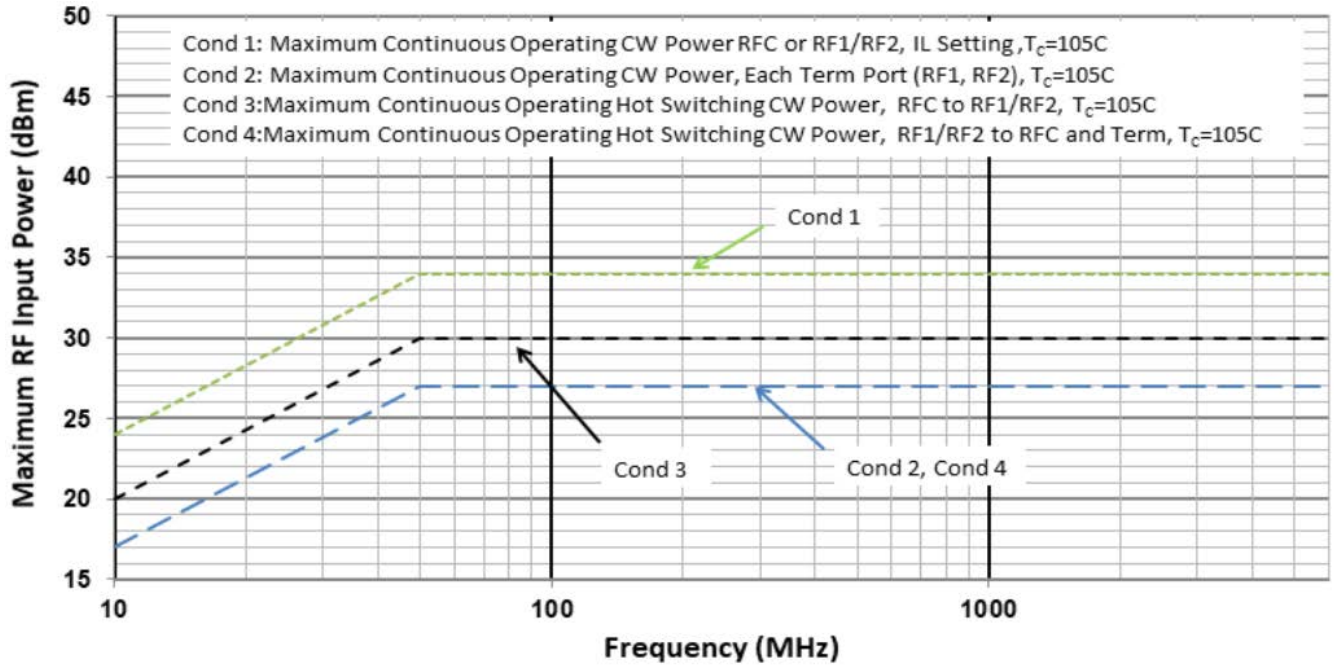

Figure 2. Maximum RF Input Operating Power vs. Frequency
- Levels based on:  $V_{DD} = 3.1\text{V to } 5.25\text{V}$ ,  $250\text{MHz} \leq F_{RF} \leq 6000\text{MHz}$ ,  $Z_S = Z_L = 50\Omega$ . See Figure 2 for power handling derating vs. RF frequency.